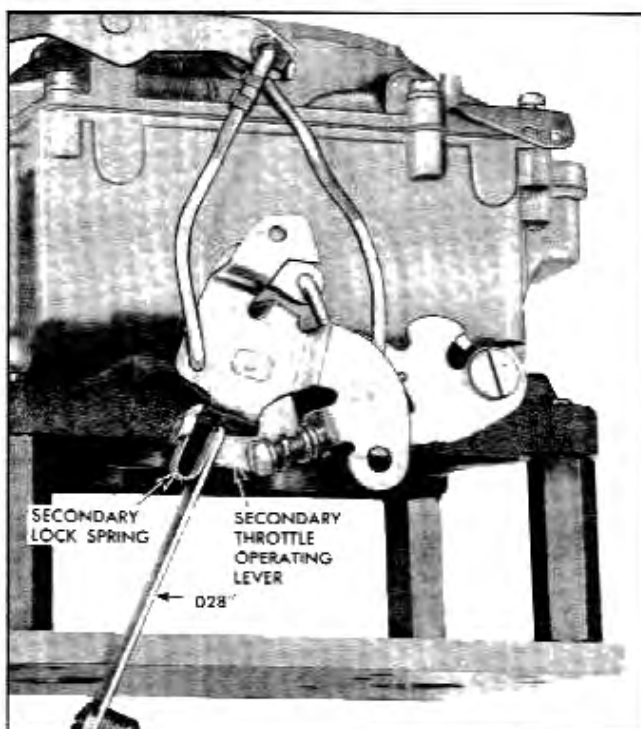

Fig. 6B-36 Secondary Throttle Lever Adjustment (Carburetor Removed for Photographic Purposes Only)
4. Measure clearance between the secondary lock spring and the secondary throttle operating lever (Fig. 6B-36). This clearance should be .028". Bend lock spring to adjust.